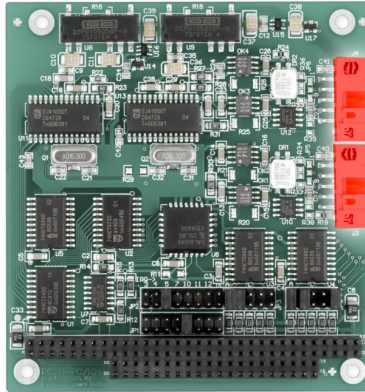

Figure 3: Connectors for the flat cables to the CAN connectors,
8. Interconnect the connector for each CAN channel on the PCAN-PC/104 card (see Figure 3) with the CAN connector of the slot bracket using the attached flat cable.